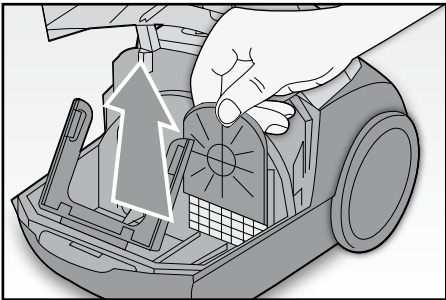

Fig. 9
- Slide the filter out from the compartment (FIG. 9).